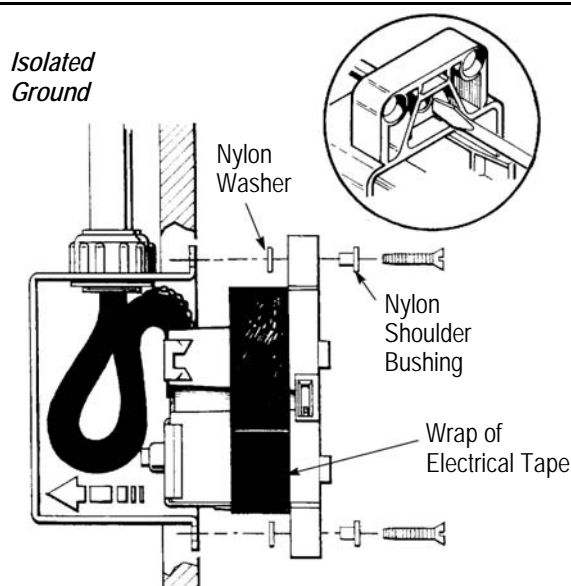

Figure 13
6.2. Isolated Ground (Figure 13)